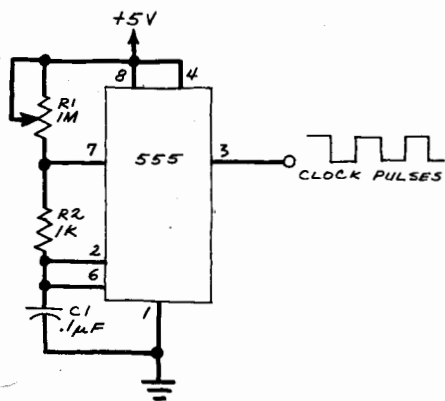
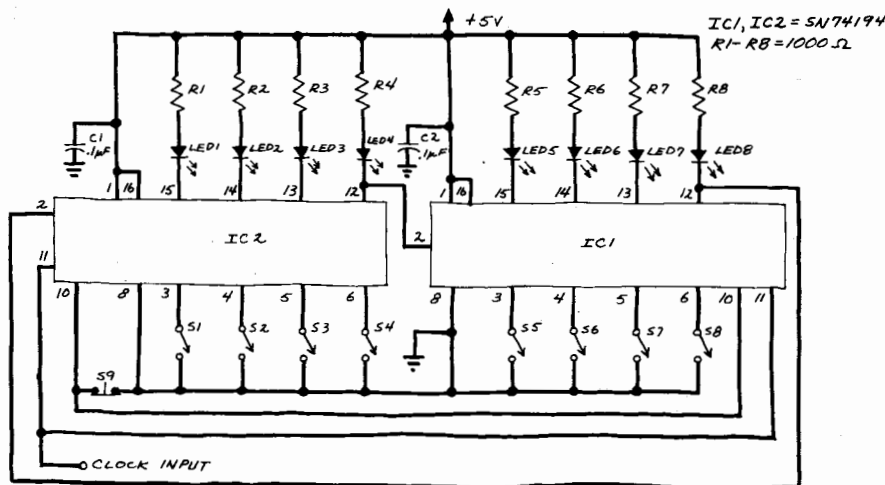
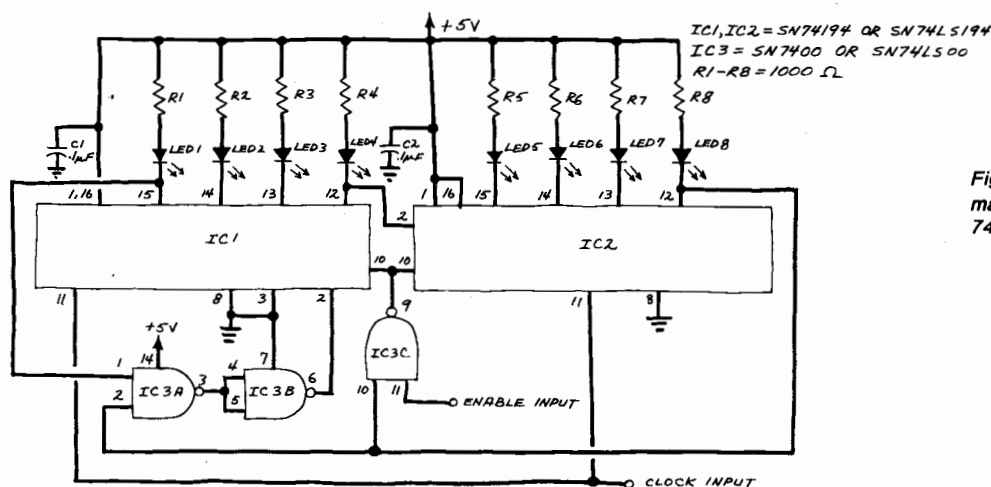

Fig. 3. A 555 clock pulse generator.
Fig. 5. A shift-register 8-bit programmable sequence generator.
Fig. 6. A bargraph generator made from a pair of 74194 shift registers
Use a 555 timer IC connected as an astable oscillator like the one shown in Fig. 3 to provide clock pulses for the circuit. The amplitude of the pseudorandom, stepped output voltage can be changed by connecting pin 2 of IC2A to any of the six other output pins of IC1.
**Programmable Sequence Generator.** Figure 5 schematically shows an 8-bit programmable sequence generator made from two series-connected 74194 shift registers (IC1 and IC2). In operation, any desired bit pattern is first selected by means of switches S1 through S8. A normally closed push-button switch, S9, is momentarily opened to load the selected bit pattern into the two shift registers. When clock signals are
You can use the 555 oscillator shown schematically in Fig. 3 as a clock circuit for the data converter. If you want to
Use the oscillator shown in Fig. 3 to generate clock pulses for this circuit. The output LEDs shown in Fig. 5 are optional, but including them allows the circuit to double as an attention-getting programmable light flasher. The LEDs can be arranged in various patterns to enhance the effect.
**Bargraph Generator.** Figure 6 is the schematic diagram of an unusual bargraph generator made from a pair of 74194 shift registers. In operation, the circuit's ENABLE INPUT is brought momentarily to logic 0 to start the circuit. This causes seven of the eight bit positions to be loaded with logic 1's, because their inputs are left unconnected and therefore assume a high state. The output of the first stage of IC1 goes to logic 0 because its input (pin 3) is grounded.
**Going Further.** Shift registers are ideally suited for experimentation. The bargraph generator shown in Fig. 6 is a good example of this. I began with the remnants of the circuit in Fig. 5 (the input switches were removed) and tinkered with the basic circuit by adding a single 7400 quad NAND gate IC. Within a few minutes, the bargraph effect was achieved. You can do the same kind of experimentation on your own by selecting different register outputs to be connected to NAND gate IC3A in Fig. 6. You can also try adding additional stages for more complex effects. The cost of integrated shift registers is very reasonable, and you'll learn a good deal about these very versatile logic circuits by experimenting with them. ◇